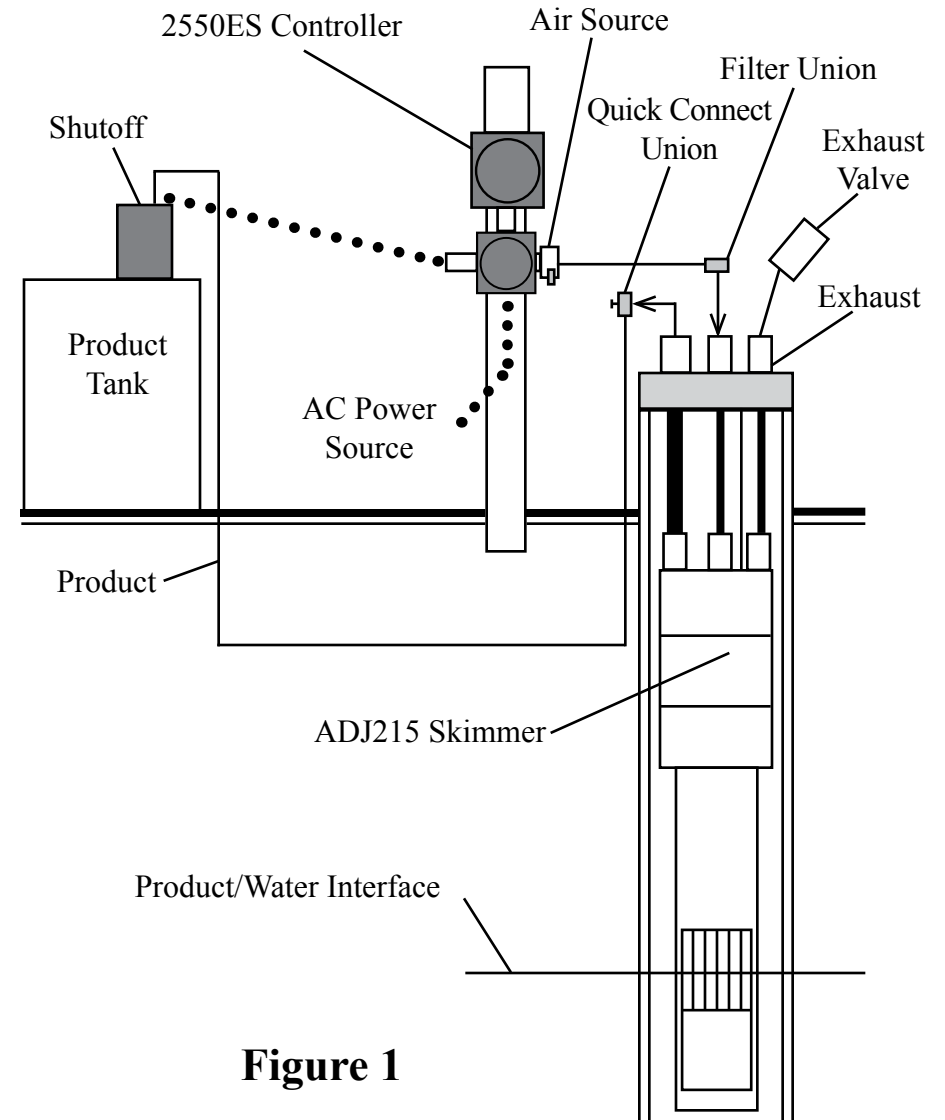
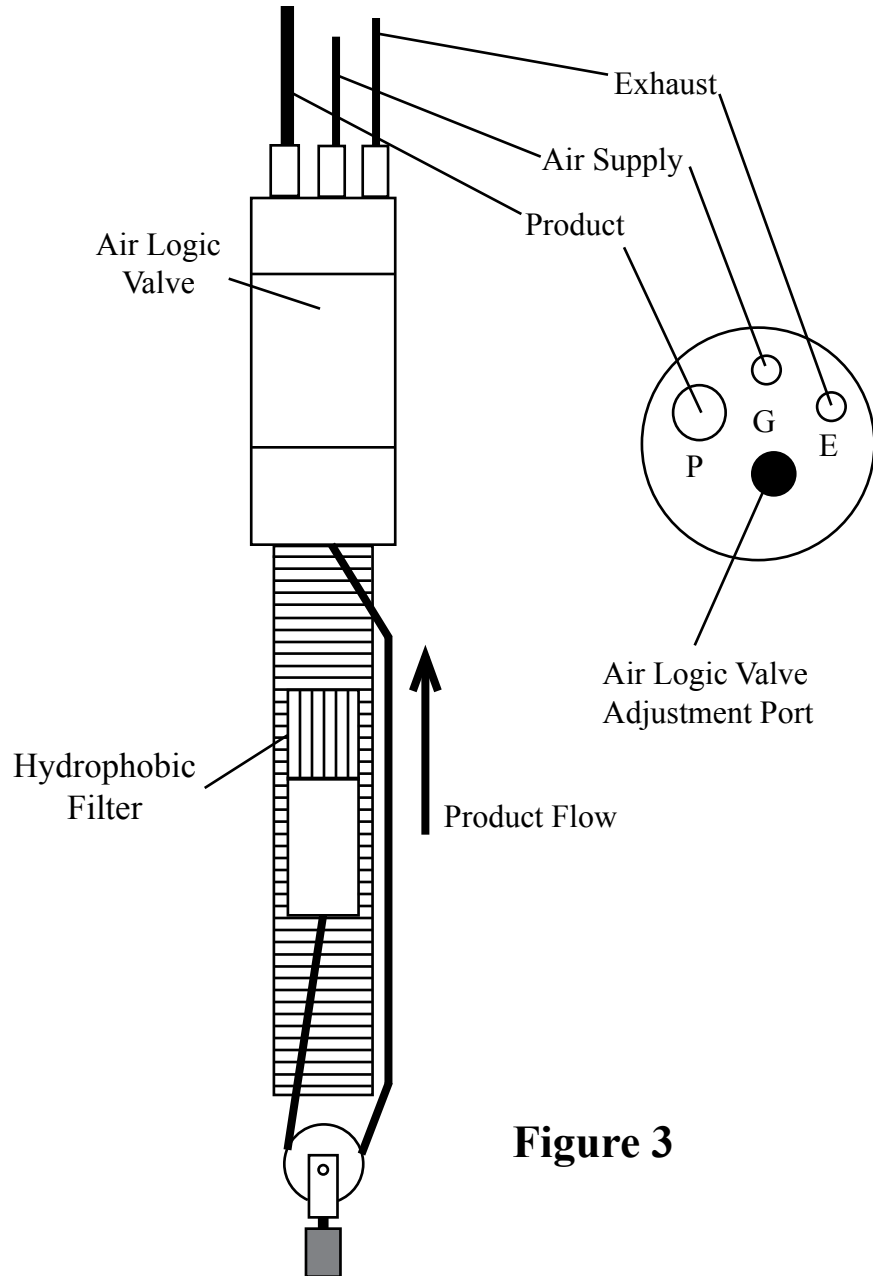

Figure 1
Figure 3
The system (Figures 1 and 2) relates to floating hydrocarbon recovery in wells two inches in diameter and larger. This system includes: an intrinsically safe ADJ215 pneumatic Smart Skimmer (Figure 3) which removes only product to a sheen up to 200 feet deep; and a two function electronic Class I Controller Model 2550ES for hazardous locations which operates the skimmer intermittently, and has a high level tank shutoff.
STEP 7. Position the skimmer and well cap on the ground near the well. Cut a length of 1/4" OD air supply tubing to cover the distance from the top of the well down to water/product interface, plus 5 feet. **NOTE:** If the skimmer is over 70 feet deep, use 3/8" OD air supply tubing in stead of 1/4" OD tubing. Slide enough tubing through the well cap and attach the end of the tubing to the top of the skimmer tube fitting labeled "G" (Figure 3). If the product thickness is greater than 1 foot, position the center of the skimmer screen 1 foot below top of product. If the product thickness is less than 1 foot, position the center of the skimmer screen at the water/product interface.
STEP 8. Cut a length of 5/16" OD product tubing same length as the air supply line. Install 5/16" OD product tubing through the well cap tube fitting labeled "P" (Figure 3). Slide enough tubing through the well cap and attach the end of the tubing to the top of the skimmer tube fitting labeled "P". **CAUTION:** Do not kink the tubing.